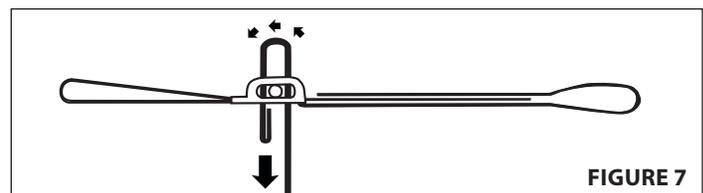

FIGURE 7
3. Feed end tail over roller bar and down through float buckle. **SEE FIGURE 7.**
4. Pull end tail away from float buckle. **SEE FIGURE 7.**